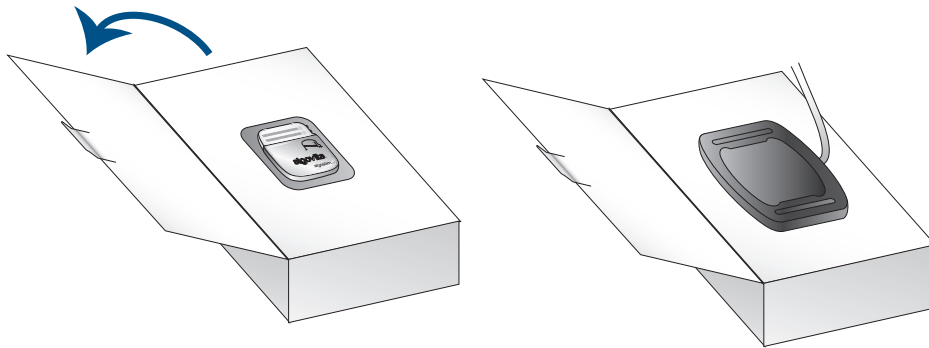

Figure 2. Preoperatively check the IPG
4. Lift the flap on the top of the IPG shelf carton and place the charging paddle on the window over the IPG (*Figure 2*).